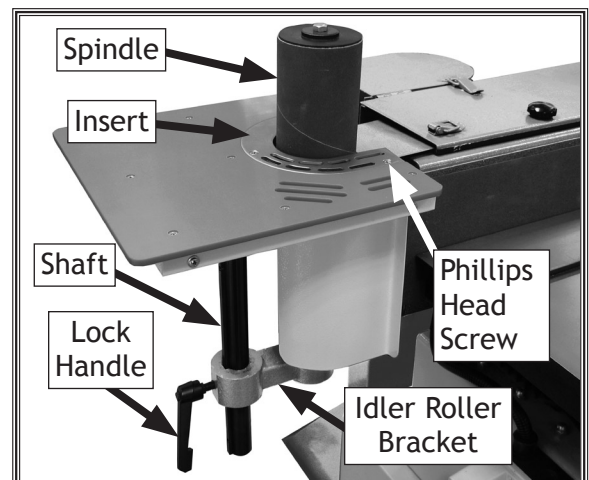

Figure 2. Model D3741 installed.
- If you plan to sand the workpiece on one of the spindle drums, remove the Phillips head screws (see **Figure 2**) and the 4¹/₄" insert. Measure the diameter of the spindle drum installed on the sander. Insert the correct sized insert into the auxiliary table, secure with the Phillips head screws, then proceed to **Step 3**.
3. Slide the Model D3741 auxiliary table shaft into the opening in the idler roller bracket (see Figure 2).